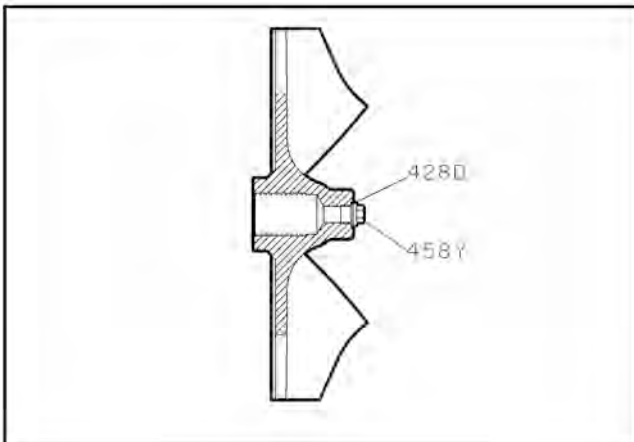

Figure 73:
36. Install Impeller anti-rotation device (458Y) making sure the 0-ring (428D) is in good condition. Replace if needed (Fig. 73).
3. Install casing bolts (370), finger tight. Casing bolts (370) may be coated with anti-galling compound to aid disassembly. Tighten the casing bolts per Table 5: Maximum Torque Values in ft.-lb. \(Nm\) for Casing Bolts \(370\) on page 50 torque values. Install casing jack screws (418), snug tight Figure 73: on page 62.